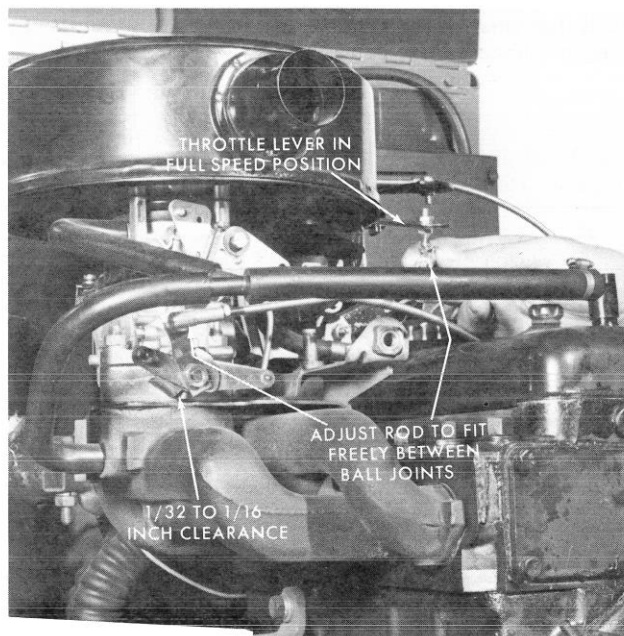

Figure 39
3. Hold carburetor lever 1/32 to 1/16 inch from stop. See Figure 39.